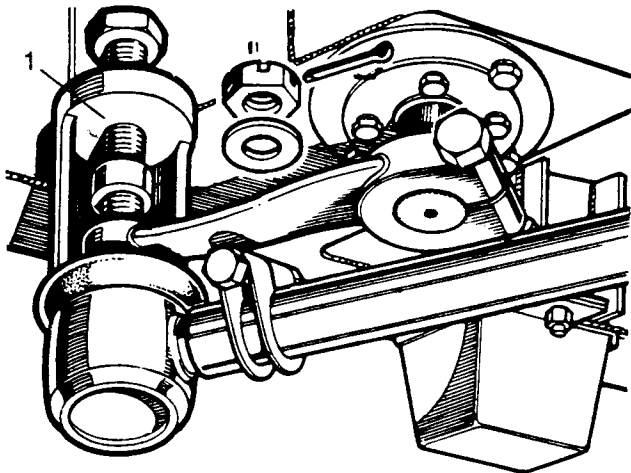

Fig J1.19
- (7) Refer to Fig J1.19. Disconnect the steering drag link from the lower relay lever, using special tool 601763 (1) to extract ball joints.